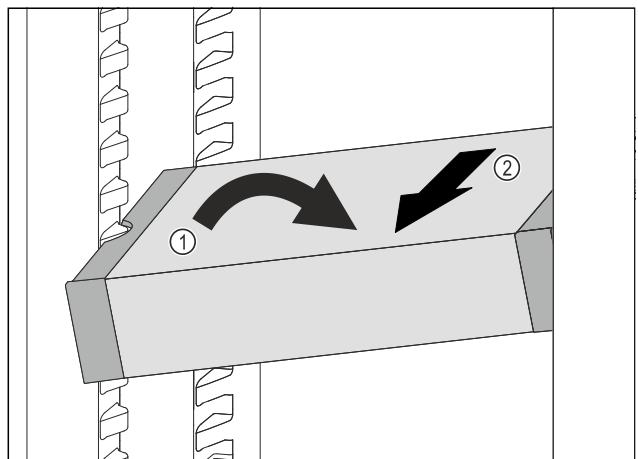

Fig. 206
- ▶ Set VarioSafe in refrigerator compartment at an angle. Fig. 206 (1)
- ▶ Take VarioSafe out to the front. Fig. 206 (2)